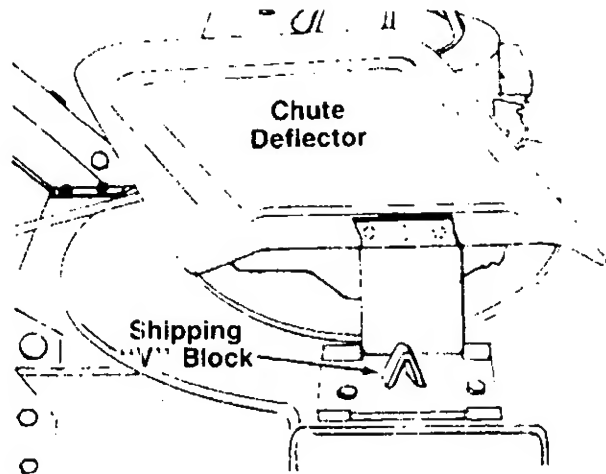

FIGURE 9.
2. The chute deflector on your mower is held in an upright position by a "V" block for shipping purposes only. This "V" block must be removed and discarded before the mower is put into operation. See figure 9.